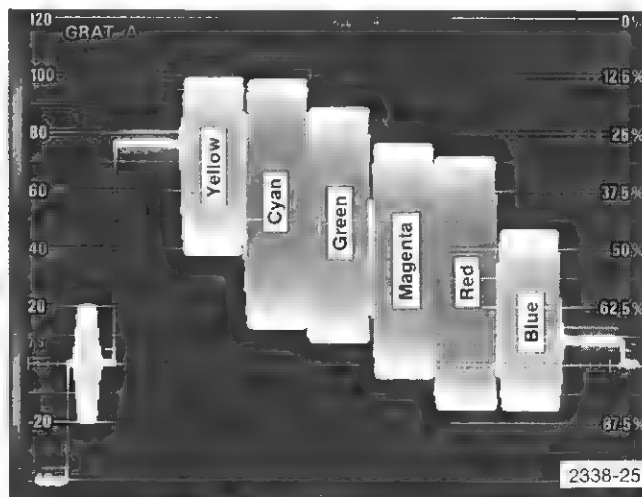

Fig. 5-3. NTSC Color Bar Signal (Color Bars are in identical location for PAL signal.)
a. Connect a color bar test signal from the video signal source to the 1480-Series VIDEO INPUT A connector. Connect the VIDEO INPUT A loop-thru connector to the AUX VIDEO IN connector. Do not terminate. Set the RESPONSE switch to FLAT, and the DISPLAY switch to 5 μ s/div. Note the amplitude difference between the tops of the yellow and cyan bars. See Fig. 5-3, Color Bar.